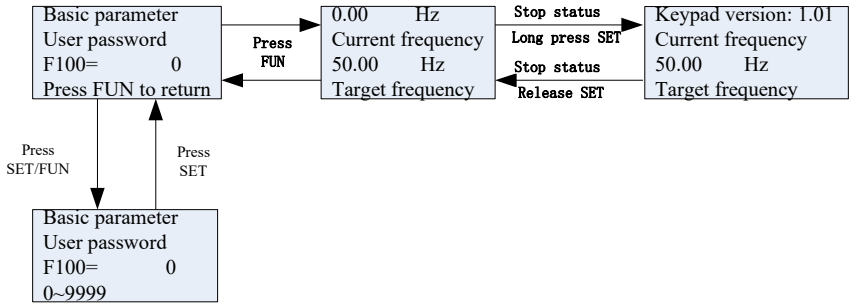

Fig 5-2 Operating flow chart of interface switch
(1) Connect the wires in accordance with Figure 5-2. After having checked the wiring successfully, switch on the circuit breaker, and power on the inverter;